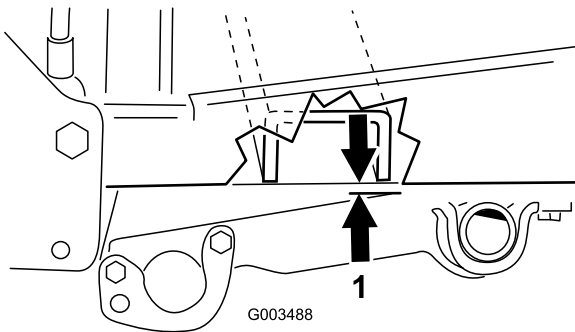

Figure 18
2. Measure the distance between the traction unit frame and the pivot tube as shown in Figure 18.